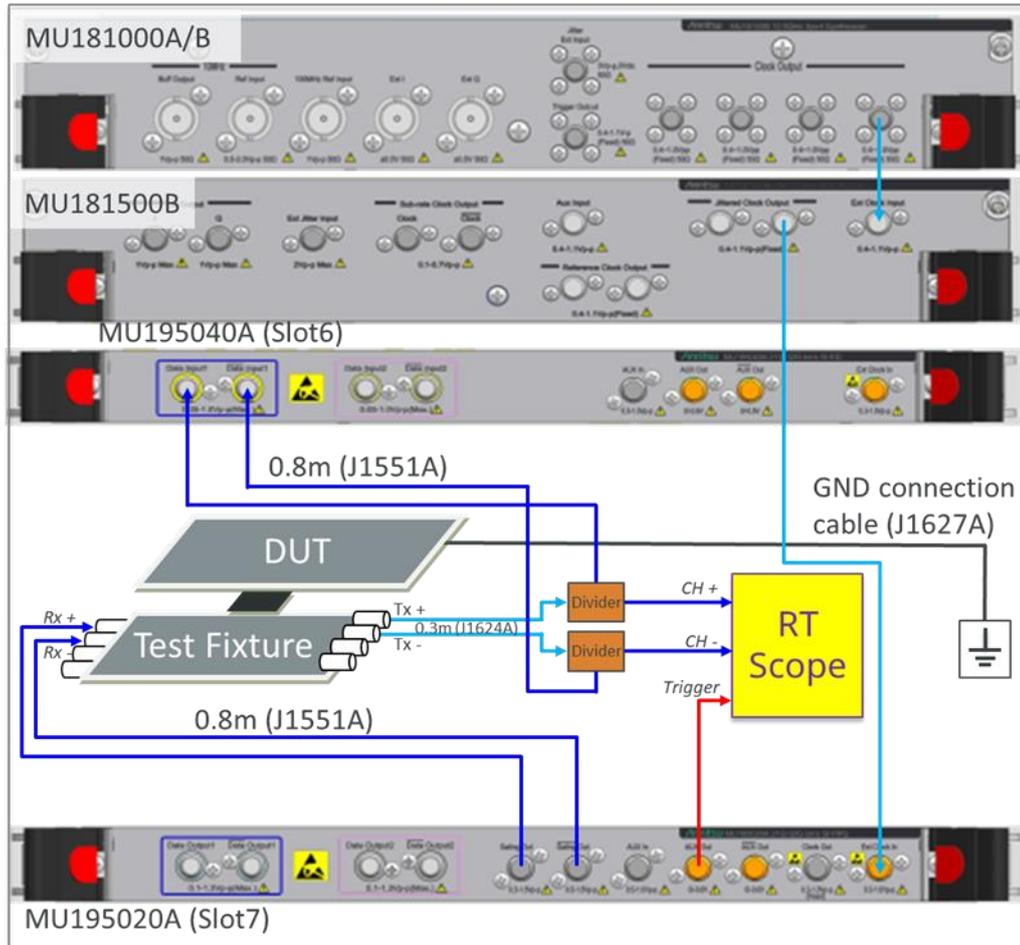

Figure 4.1-1 1000 mV and 1200 mV LFPS signal testing connection
- Connect the setup as shown in Figure 4.1-1.